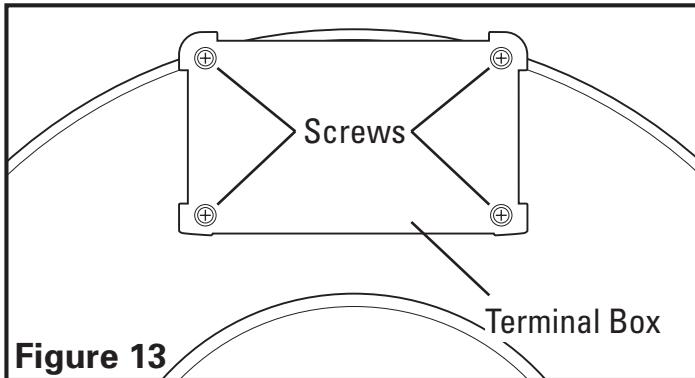

Figure 13
1. Remove the screws securing the terminal box cover plate located on the side of the motor (**Figure 13**).